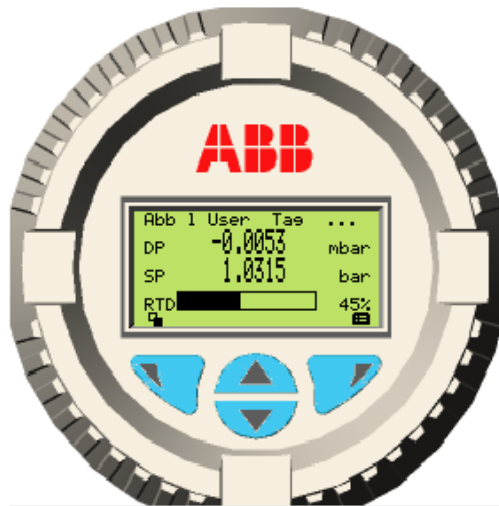

Figure 28: Display operating properly
1. Apply 10.5 to 30 Vdc power to the transmitter and observe that the display indicates operation as shown in Figure 28.